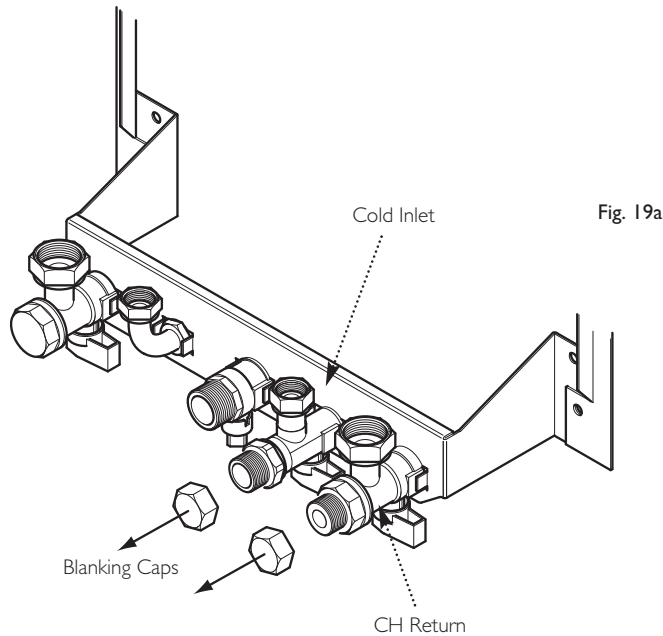

Fig. 19a
5. Remove the blanking caps from the mains cold water inlet and central heating return isolation taps (Fig. 19a). Connect the valves to the taps, ensuring that the fibre washers supplied are used on these joints.